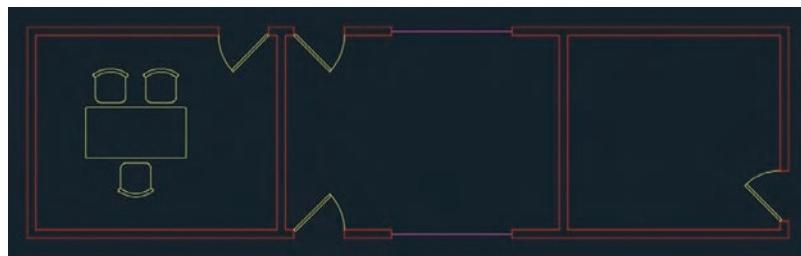

FIGURE 7.16 All doors have been updated by editing the door block in place
5. Click the Save Changes button in the temporary Edit Reference panel on the Home tab of the ribbon. Click OK in the AutoCAD warning dialog box that appears, which says, “All reference edits will be saved.” Figure 7.16 shows the result: all door references have been automatically updated with the new door geometry.